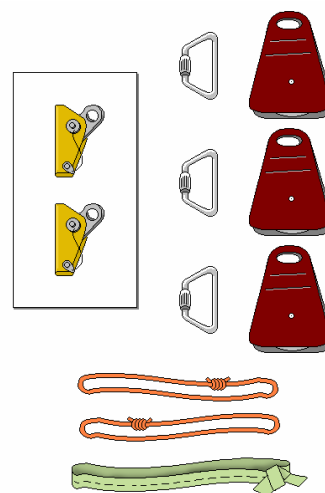

Figure 8-3
- ☐ The equipment required for the construction of the mechanical advantage system is commonly carried in a pocket in one of the two rope bags, bagged separately, or preassembled and attached to a lifeline in a separate rope bag. (Figure 8-3)